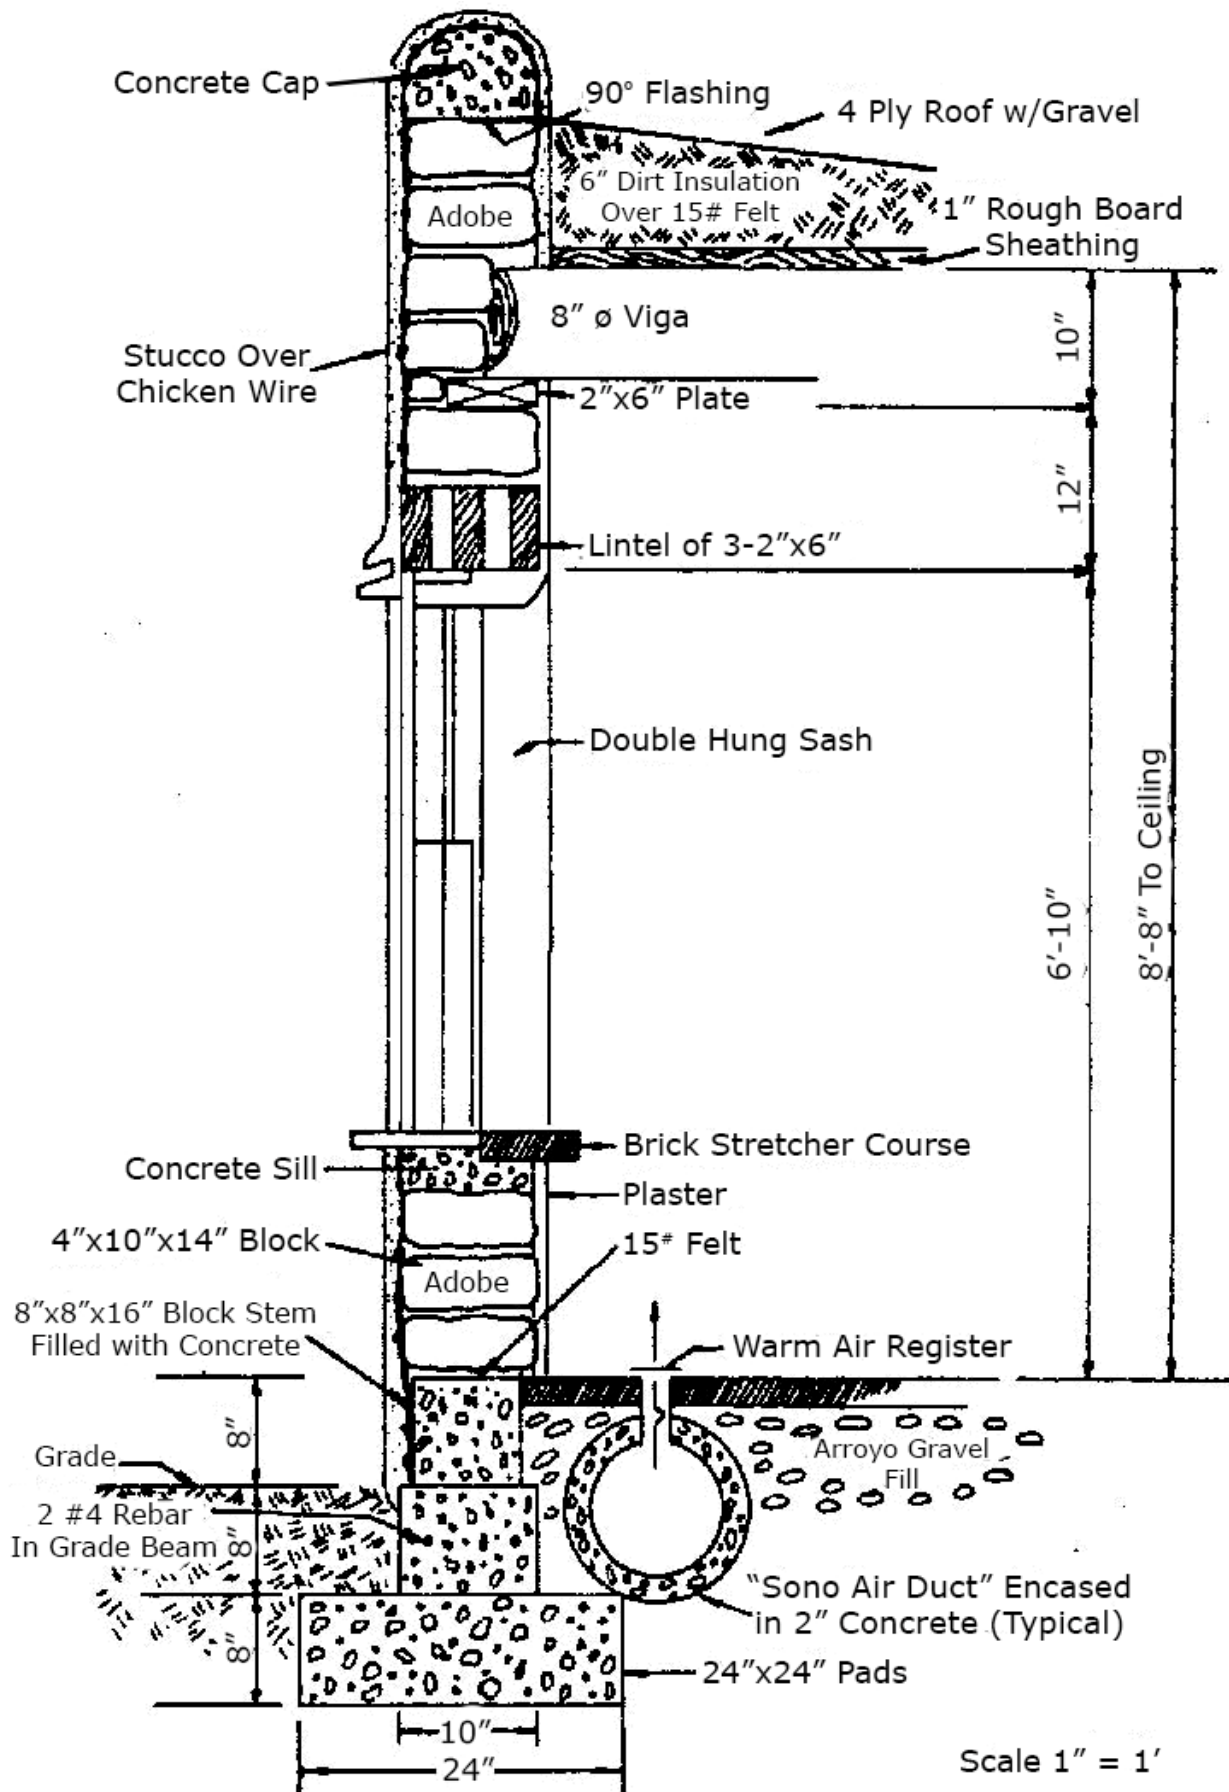

Figure 64. A builder in Albuquerque, N. M., uses this wall section for adobe walls.
*WINDOWS* - When the block wall has been brought up to the correct height, the window sill should be placed. This is one of the most common places for annoying leaks to occur and great care should be taken at this stage of the construction. The sill should be made of a sturdy material that will not rot. A good quality mortar can be used or preferably lightly reinforced Portland cement concrete should be formed into a sill as shown in Figures 64 and 65. When a wood frame window is to be used, the masonry sill should not at any place extend above the bottom of the wooden sill or leaks will occur. The masonry sill should not stick out beyond its finished outside wall. An overhanging sill will collect water running down the face of the wall and cause damaging erosion. If an overhanging sill is used, it should have a drip groove underneath to prevent water from running down the face of the wall.